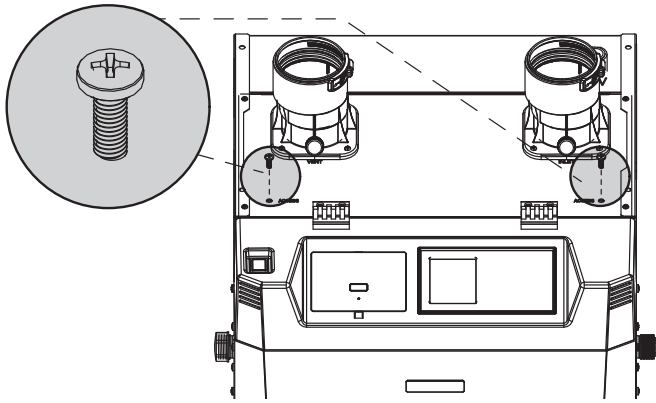

Fig. 8: Access Screws
4. Locate and fasten the 2 M6 access screws. See Figure 8.